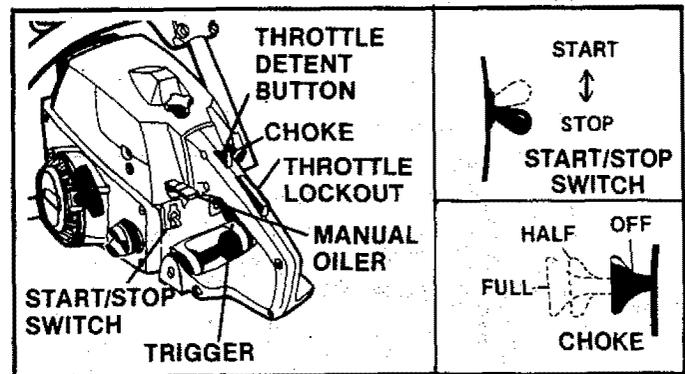

Figure 13
Understanding the control devices on your saw is an important part of learning how to properly and safely operate the unit. Figure 13.
- f. Stop engine by moving the ignition switch to the "STOP" position (Figure 13).
\* Allow engine to warm-up thoroughly on half-choke, then move choke to the "Off" position. Do not cut with the choke at the "On" or "Half" position. Figure 13.